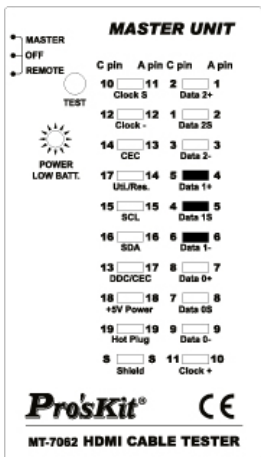

Fig 4. Short
- **Short**: With three short “beep” sound. Shorted pins LED will light up at same time. Example: Test HDMI (A Type) to HDMI (A Type) cable that pin #4、#5、#6 are shorted or test HDMI (A Type) to Mini-HDMI (C Type) cable that pin #4、#5、#6 are shorted. (Fig 4.)